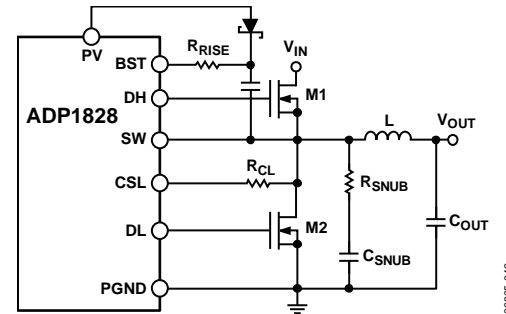

Figure 41. Application Circuit with a Snubber
In any high speed step-down regulator, high frequency noise (generally in the range of 50 MHz to 100 MHz) and voltage overshoot are always present at the gate, the switch node (SW), and the drains of the external MOSFETs. The high frequency noise and overshoot are caused by the parasitic capacitance,  $C_{gd}$ , of the external MOSFET and the parasitic inductance of the gate trace and the packages of the MOSFETs. When the high current is switched, electromagnetic interference (EMI) is generated, which can affect the operation of the surrounding circuits. To reduce voltage ringing at the drain of the MOSFET, an RC snubber can be added between SW and PGND, as illustrated in Figure 41. In most applications,  $R_{SNUB}$  is about 2  $\Omega$ , and  $C_{SNUB}$  about 1.2 nF.  $R_{SNUB}$  and  $C_{SNUB}$  can be calculated using the following equations:
In most applications, a size 0805 component is sufficient. The use of the RC snubber reduces the overall efficiency, generally by an amount in the range of 0.1% to 0.5%. However, the RC snubber cannot reduce the voltage overshoot. A resistor, shown as  $R_{RISE}$  in Figure 41, at the BST pin can help to reduce overshoot and is generally between 1  $\Omega$  and 5  $\Omega$ .